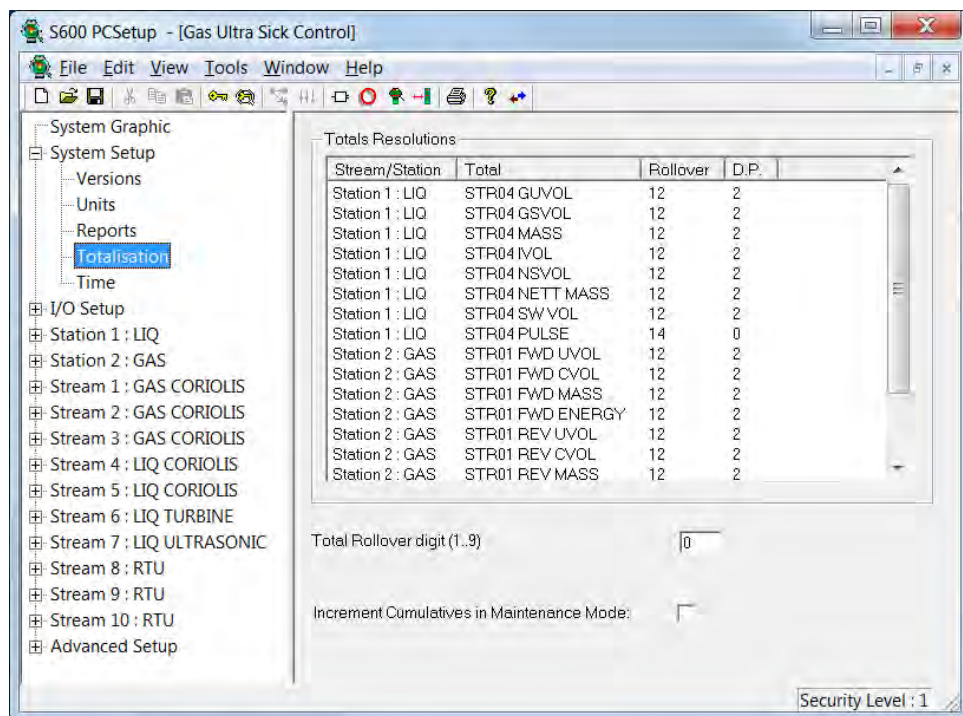

Figure 3-8. Totalisation
Click the **Totalisation** option on the hierarchy to display the Totalisation screen (*Figure 3-8*). Use this screen to manage how the system displays totals.
3. Complete the **Total Rollover digit** field (see Figure 3-8) to indicate the value at which rollover occurs. For example, if you either leave this field at **0** (default) or set it to **9**, rollover occurs at 9,999. If you set this field to **3**, rollover occurs at 3,999, and so on.
4. Select the **Increment Cumulatives in Maintenance Mode** check box (see Figure 3-8. *Totalisation*) to enable the S600+ to increment all totals in maintenance mode. Otherwise the S600+ increments only Maintenance Mode totals when in maintenance mode.